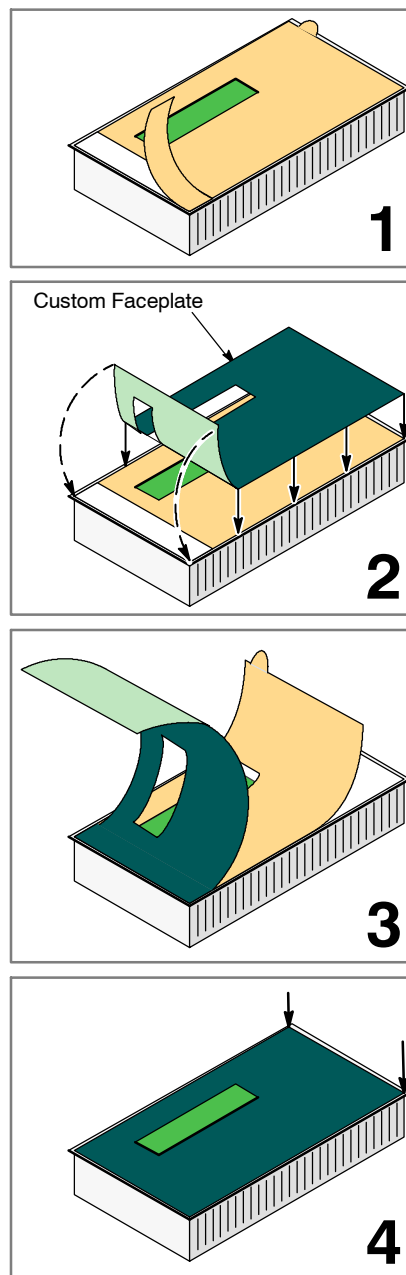

Figure 3-21 Adhering the Faceplate onto the TD 200C
1. As shown in Figure 3-21, remove the strip of protective paper on the left side of the TD 200C to expose a strip of the adhesive.